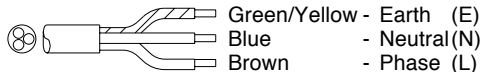

fig. 2
- (fig. 2) For 240V 1 phase with plug socket.
- (fig. 2) For 240V 1 phase (3-core cable).
The following remarks apply to figure 2:
The 3 core main cable (fig. 2) has the following wiring code: